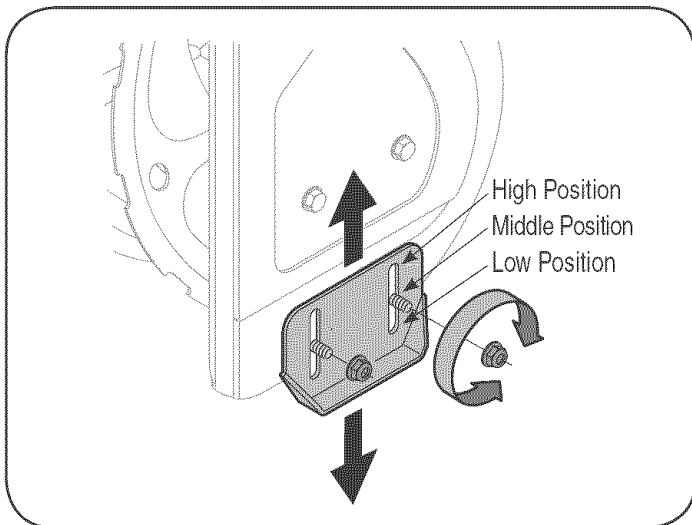
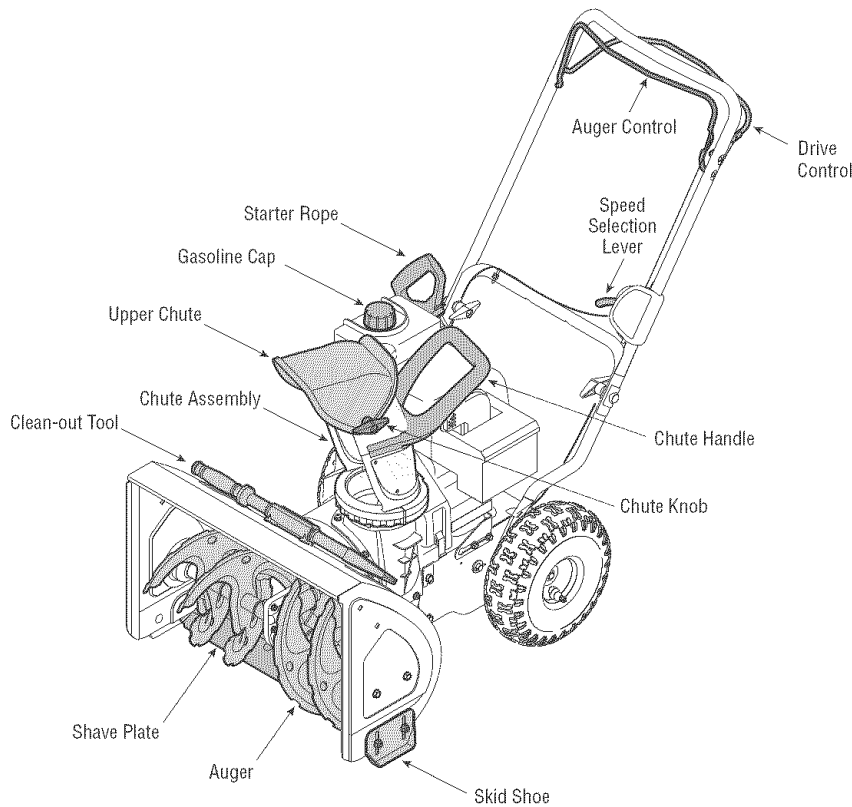

Figure 5
Figure 6
The space between the shave plate and the ground can be adjusted. Refer to Figure 6 on page 7 for location of shave plate and skid shoes. For close snow removal, place skid shoes in low position. When area to be cleared is uneven, place skid shoes in the middle or high position. See Figure 5.
1. Adjust skid shoes by loosening two hex nuts and carriage bolts on each skid shoe, and moving skid shoe to the desired position. See Figure 5.
NOTE: Compare Figures 6 & 7 with your equipment and follow description of controls, given below, to get familiar with their operation.